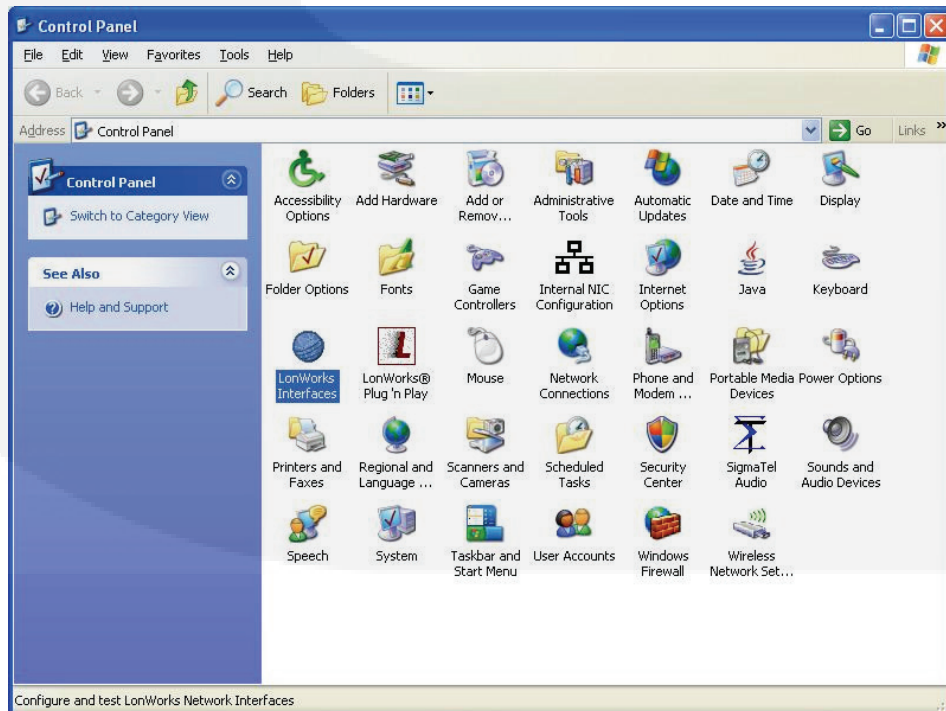

FIGURE 4-16. LONWORKS INTERFACE ICON
2. Double click on **LonWorks Interface** (see Figure 4-16).